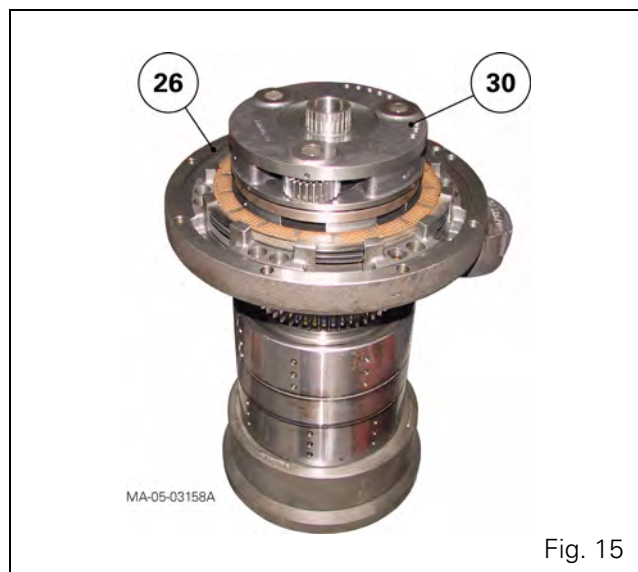

Fig. 15
22. Remove the piston (57) and the springs (58).
23. Place the section with the reverse shuttle on a suitable supporting fixture, with the cover (26) and planet carrier (30) facing upwards (Fig. 15).
24. Remove the planet carrier (30) (Fig. 15). To remove the planetary gears, see § G.